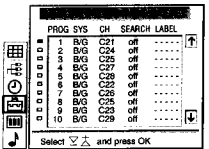

Fig. 22
- Select »Manual Programme Preset« with Δ+ or ∇- and press OK. The MANUAL PROGRAMME PRESET menu appears. (See Fig. 22.)